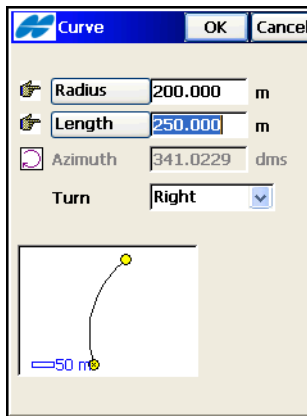

Figure 7-10. Add Curve
2. On the *Curve* screen (Figure 7-10 on page 7-9), enter the following parameters:
- For the direction of turn (Figure 7-10), select either the *Right* value (clockwise direction or the *Left* value (counter-clockwise direction.)